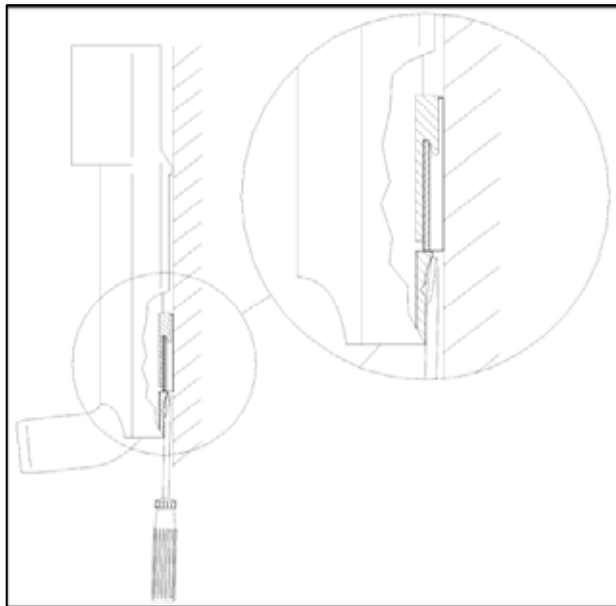

Figure 5-18: Middle Spray Arm Cover Removal
1. Insert a large screwdriver between the Cover Retainer and the Metal Holder on the rear of the cabinet wall – see figure 5-18.